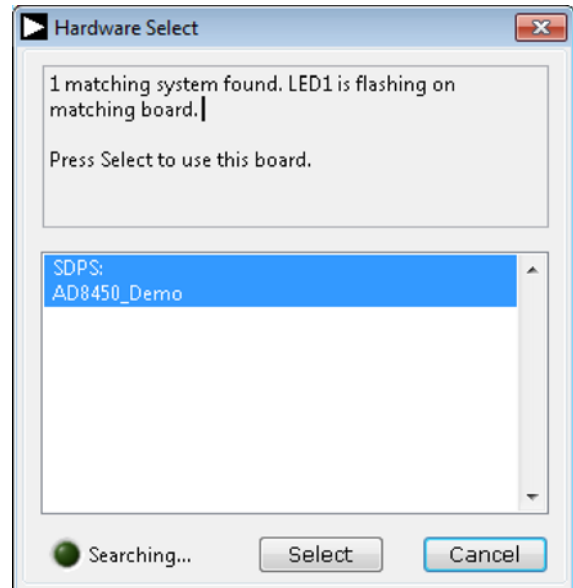

Figure 13. Software Detects Evaluation Board
3. When the evaluation board is detected, the message in Figure 13 displays. Click **Select** to continue.